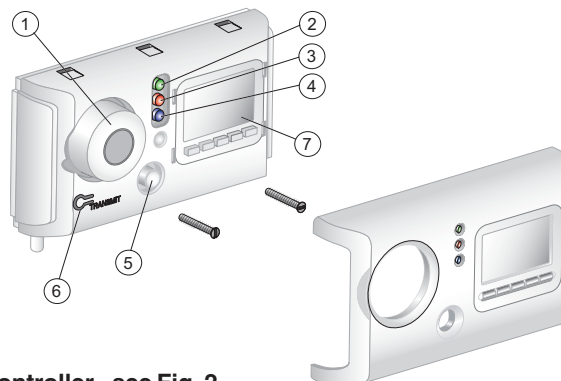

Fig. 2
- Remove screw 'x' from the underside of the Controller unit - see Fig. 2.
- The front facia is held in place by clips at the top. It must be removed by lifting the top of the facia upwards and then outwards - see Fig. 2.
- Secure the Controller to the backing box using the screws provided (located on rear moulding) - see Fig. 2.
### Controller - see Fig. 2
- Ensure both the Controller and Receiver(s) are powered up. To activate the Controller press the standby button see '1' in **Fig. 2**. When activated, the 'ON' (Green) light will illuminate.